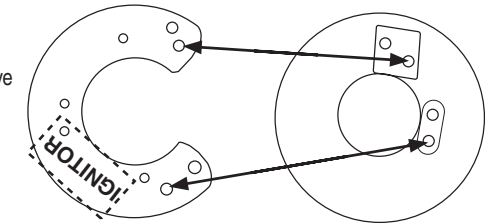

FIGURE 1
- NOTE:** IGNITOR AND ADAPTER PLATE MUST BE INSTALLED IN THE PROPER LOCATION AS SHOWN IN FIGURE 1 & 2.
- Secure Ignitor to adapter plate with provided screws before installing onto distributor. (See Figure 1 & 2).
- Small Distributor Cam (0.715"): Ignitor and Adapter Plate installation (See figure 1).